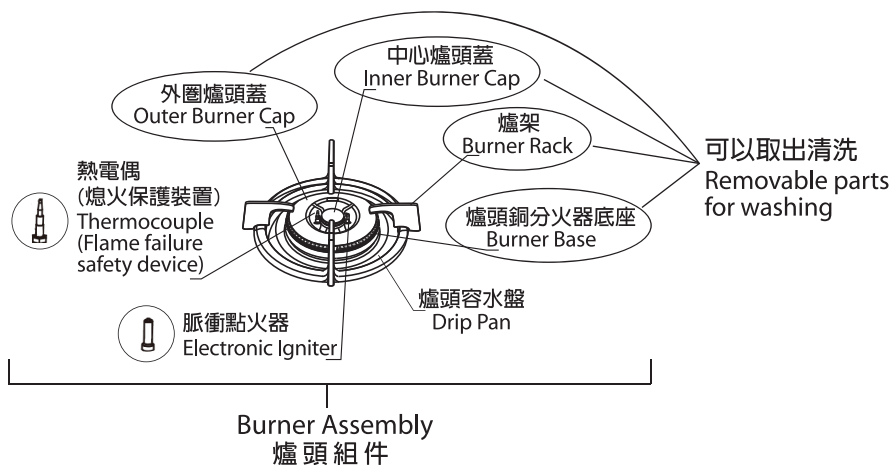

Fig.3 (圖3)
- Removable parts of the burner assembly (including outer burner cap, inner burner cap, burner base and burner rack) are washable. They should be dried immediately after wash. For non-removable parts, it is suggested to use mild detergent for cleaning. (Fig 3)
- Do not use hard brushes or rough cleaning pads to clean the thermocouple and electronic igniter. (Fig 3)